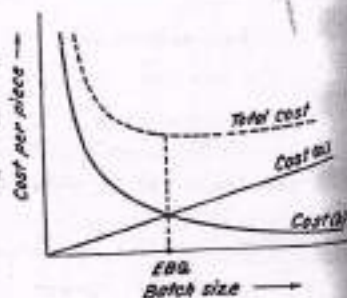

Fig. 7.15. Economic Batch Quantity (*EBQ*).
- There are two types of costs (Fig. 7.15)
The above-mentioned costs, i.e., (a) and (b) are plotted and the total cost curve is determined by adding (a) and (b) cost curves graphically (refer Fig. 7.15).